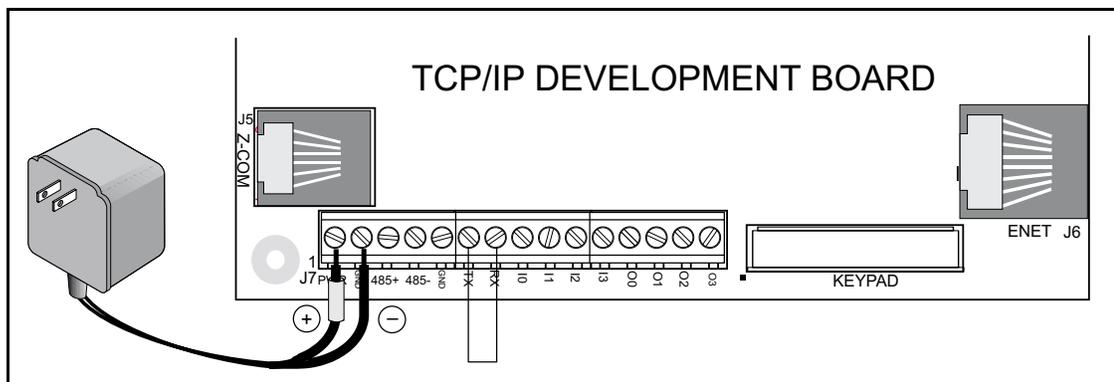

Figure 8. TCP/IP Development Board Setup for RS-232 Serial Communication Demonstration
1. Connect RX to TX as shown in Figure 8 below.